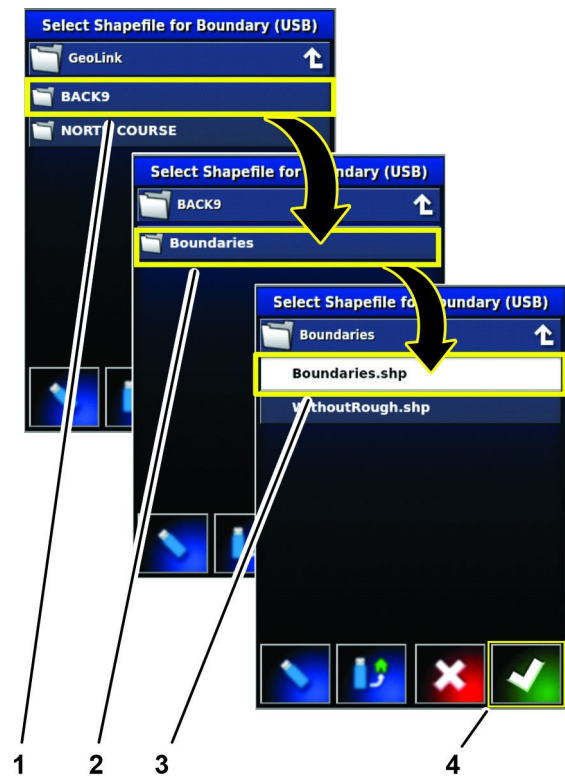

Figure 76
8. Press the directory icons (Figure 76) to navigate to the field information that you exported in step 4 of Exporting the Field Boundaries (page 29).
9. Press the BOUNDARIES icon, press the BOUNDARIES.SHP icon, and press the confirm icon (Figure 76).